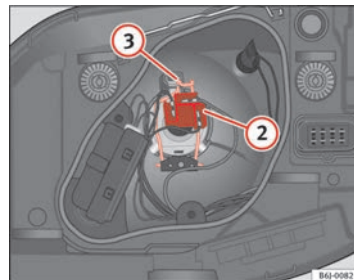

Fig. 144 Dipped beam/main beam, single headlight
- Remove the connector ⇒ page 220, fig. 144 ② from the bulb.
- Unclip the retainer spring ⇒ page 220, fig. 144 ③ pressing inwards to the right.